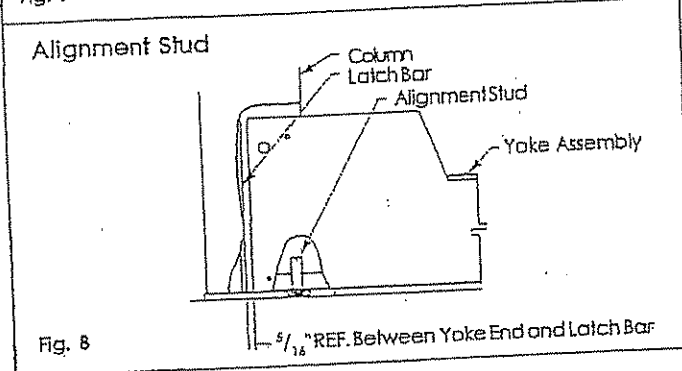
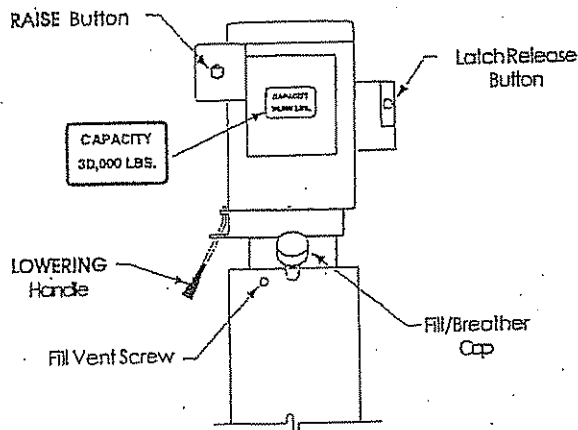

Fig. 8
Fig. 18
5. Columns: Place the power unit column at the left rear corner of the lift. The point where the hydraulic hose passes through side of left runway should be visible from this corner. Insert alignment stud through hole in yoke end and thread into base plate of column, Fig. 8. Repeat for other columns.
IMPORTANT The yoke/column alignment studs **MUST** be used for proper locking latch engagement, a gap of $\frac{5}{16}$ " max. to $\frac{1}{4}$ " min. must be maintained between column and yoke, Fig. 8.
- Install enclosed capacity label on power unit, Fig. 18.
CAUTION If fill/breather cap, Fig. 18, is lost or broken, order replacement. DO NOT substitute with a solid plug.
- A. System capacity is twenty-two (22) quarts. Use Dexron III ATF. Remove fill/breather cap and fill vent screw, Fig. 18.
- B. Pour in twenty-two (22) quarts of fluid.
- E. Remove alignment studs from all four (4) column bases, Fig. 8.